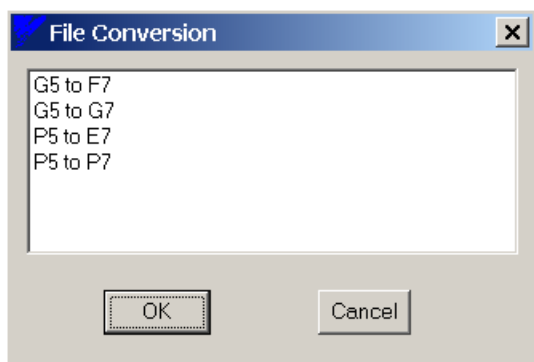

Figure 4.14: Select File Conversion Type
2. Figure 4.14 will appear. Click on G5 to F7 and then click on **OK**.